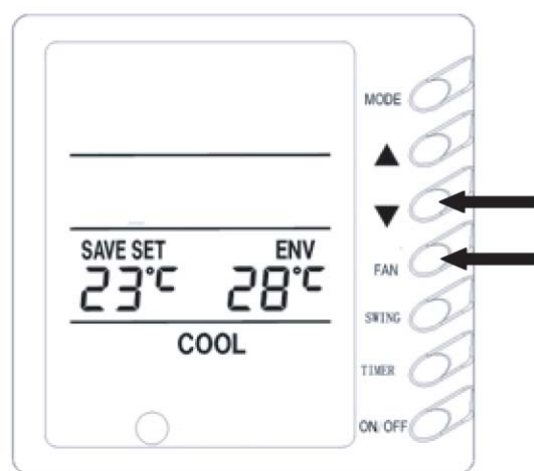

Fig 9
8) SAVE set up (Fig.9)
The above setting has been completed, the system will display "SAVE" icon, no matter by buttons on display or the wireless remote control, the setting temperature should not exceed the former SAVE setup temperature range, for example as show in Fig. 9, we set up the cooling lower limit is 23℃ in SAVE setting, the upper limit is 27℃ , the user can set the cooling temperature between 23℃ to 27℃ by the wireless remote control and buttons on displayer.